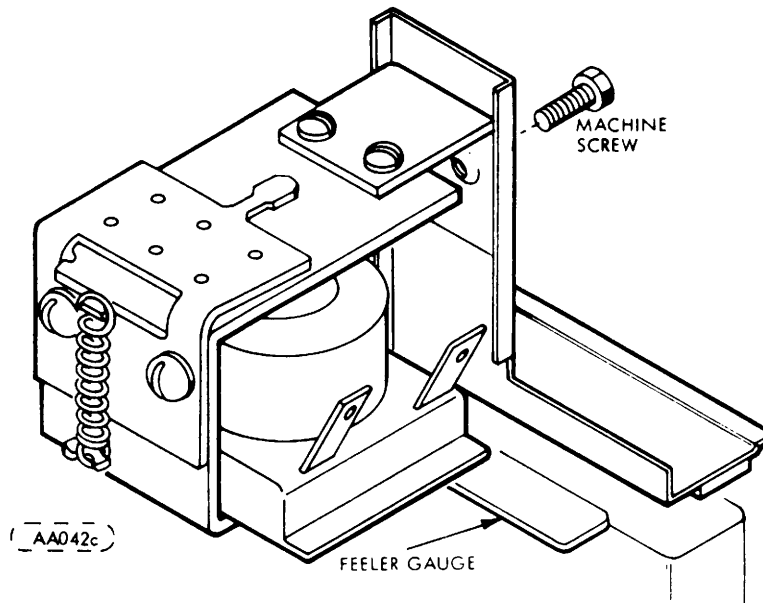

Figure 6-17. Disk Load Solenoid
- c. Loosen machine screw on bail (Figure 6-17).